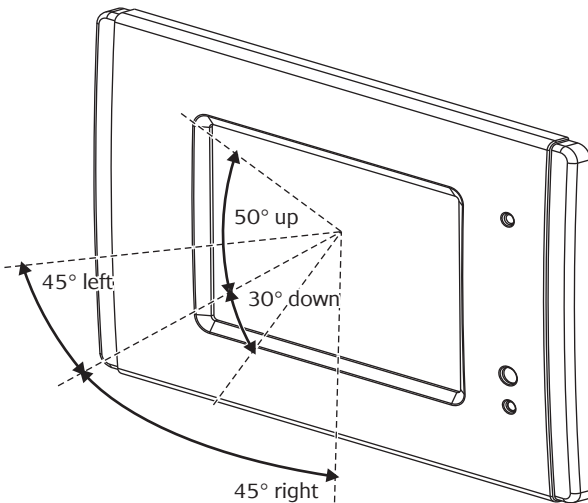

Figure 2 - Consider the unit's viewing angle when mounting
- The unit has a typical viewing angle of 45° to the left and right, 50° up and 30° down (illustrated in Figure 2). Take this into account when choosing the mounting height.